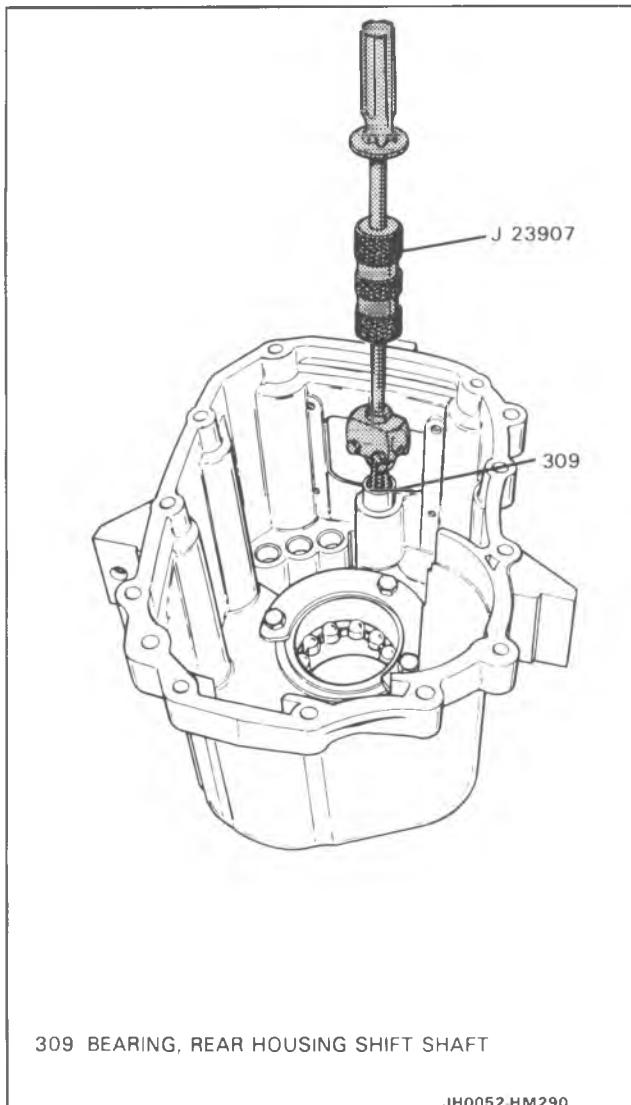
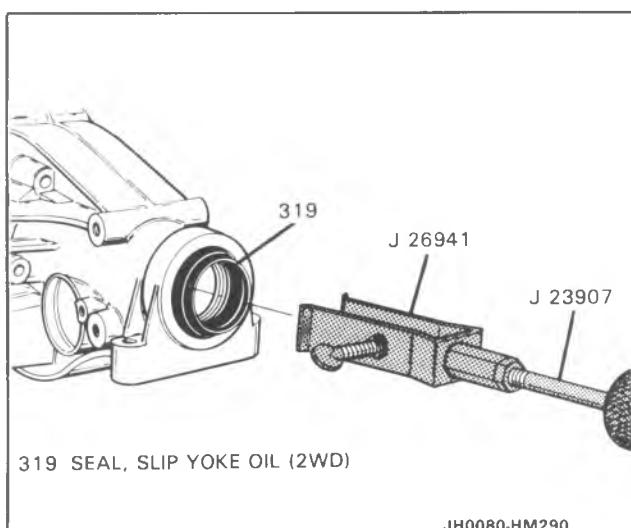

Figure 66 Removing Shift Shaft Bearing
Figure 67 Removing 2WD Slip Yoke Oil Seal
2. Rear housing shift shaft bearing (309), using J 23907 with pilot bearing puller (Figure 66).
3. Three bolts (306), output shaft bearing retainer (303) (4WD), bearing assembly (outer) race (37), using brass drift then remove shim(s) (212).
4. Slip yoke oil seal (319), using J 26941 and J 23907 (Figure 67).